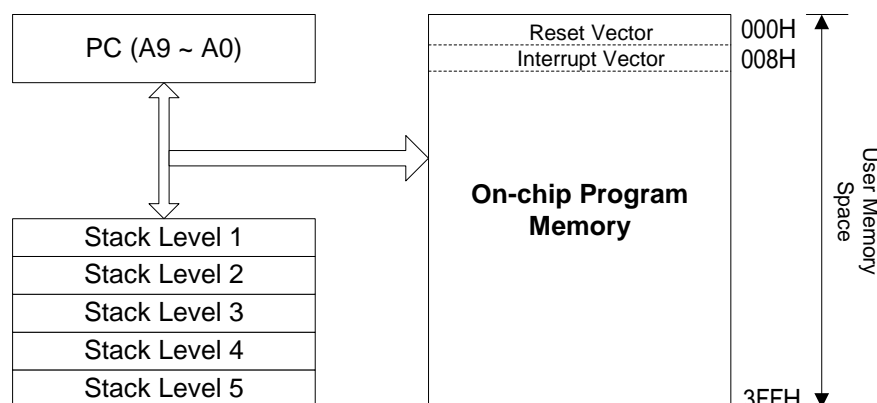

Fig. 3 Program Counter Organization
- Depending on the device type, R2 and hardware stack are 10-bits wide. The structure is depicted in Fig.3.